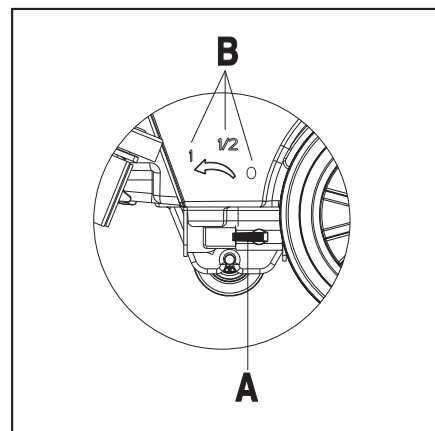

FIGURE 5
Regulating the ball valve handle (A, Figure 5) must be done under the condition when the power switch (38) is in the "Off" position.
10. The volume of the water flow may be adjusted through the ball valve handle (A, Figure 5) according to the amount of water required for your scrubbing application.